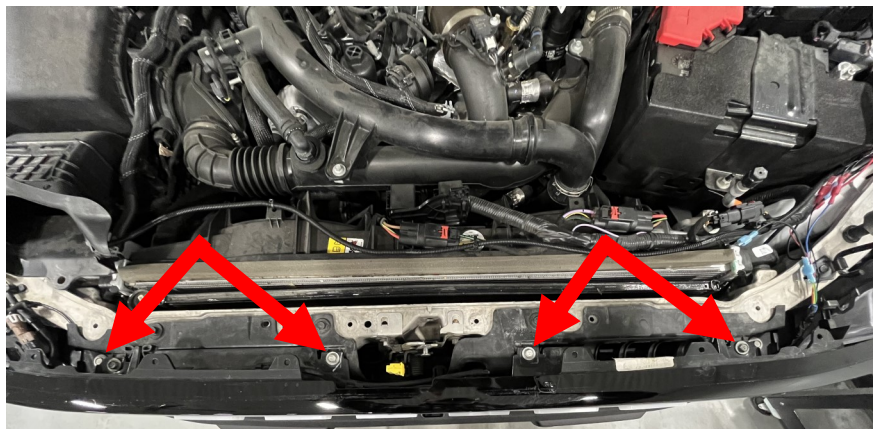

Figure 4.
**4.** To remove the front grill, use a 10mm socket, remove the four bolts as seen in figure 4.